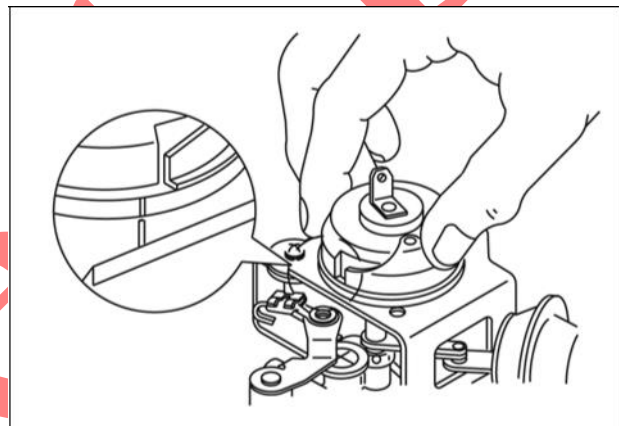

Figure 46
10. Hold choke plate closed and rotate thermostat until match marks are aligned (Figure 46). Tighten screws.